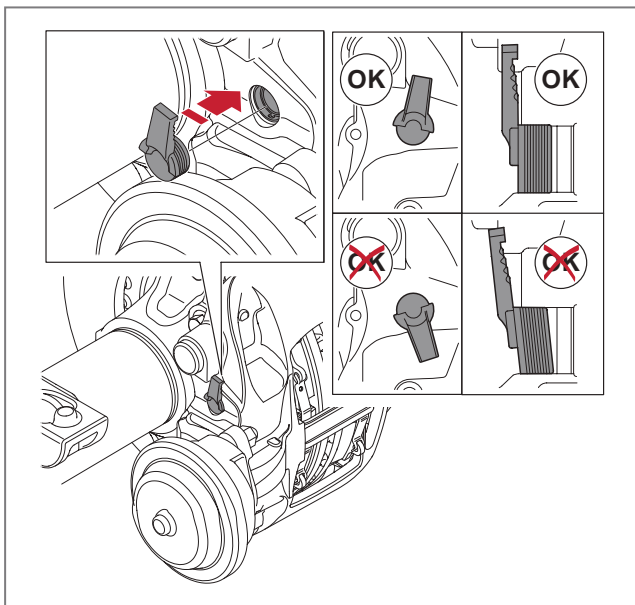

Fig. 11 - Correctly fitting the protective plug
3. Fit the reset shaft protective plug on the brake calliper and verify that it is correctly aligned and fully in the correct sealing position. Failure to do so may compromise the service life of the brake! see ► Fig. 11